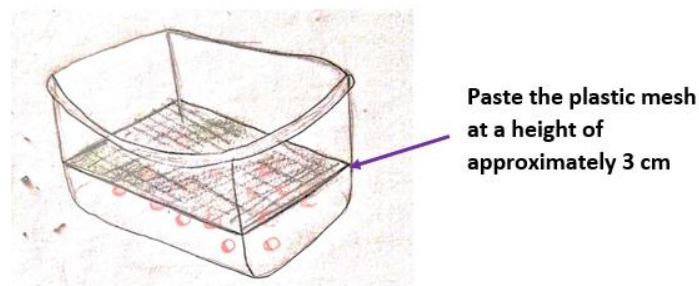

Figure 13: Drawing of plastic netting attachment to container
2.- Following this, with the help of a silicone we are going to glue the mesh to a height of approximately 3 cm (*Figure 13*).